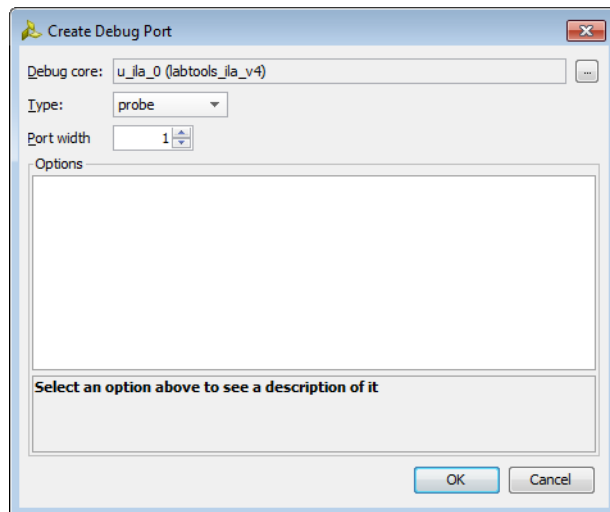

Figure 4-6: Creating a New Debug Port
2. Click **Create Debug Port** to open the dialog shown in Figure 4-6.